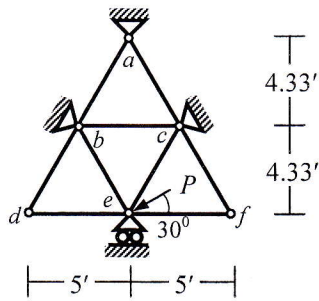

Fig 1
1. Fig. 1 shows a plane truss $abcdef$ whose support e deflects 10 mm to the left due to the applied force P . Calculate (i) Axial force in all members, (ii) Applied force P [Given: $S_x = \text{constant} = 500 \text{ k/ft}$].